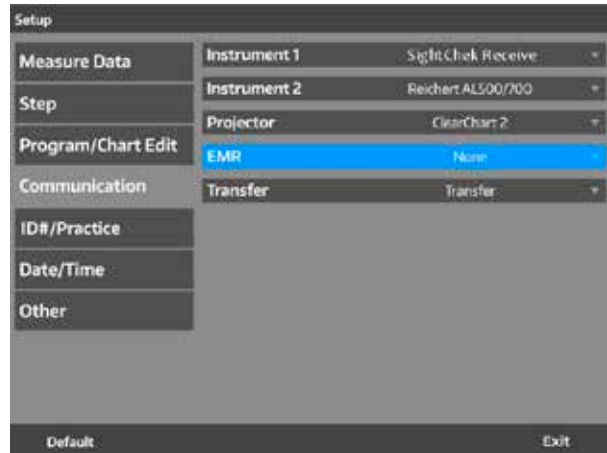

Figure IS-41 Settings Menu
1. Touch **EMR** to edit the connection settings. Refer to Figure IS-41.
1. Select the device that is being connected to the SightChek from the drop down menu that is transferring the data. Refer to Figure IS-41.